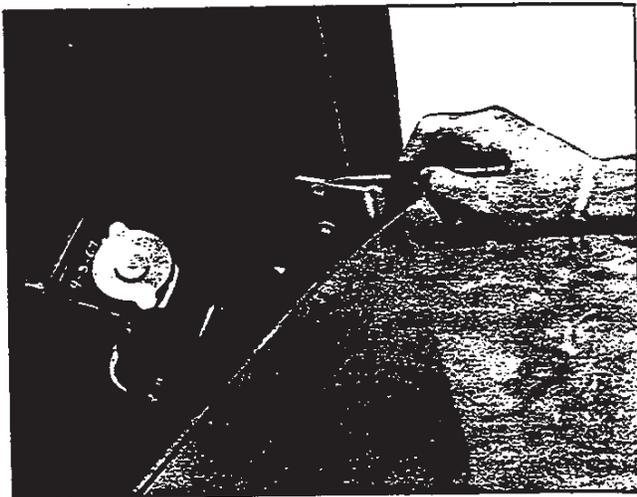

Fig. 4—Scribing Line Around Hood Hinge
1. If hood is to be reinstalled, scribe a line around hood hinge upper strap as shown in Figure 4.